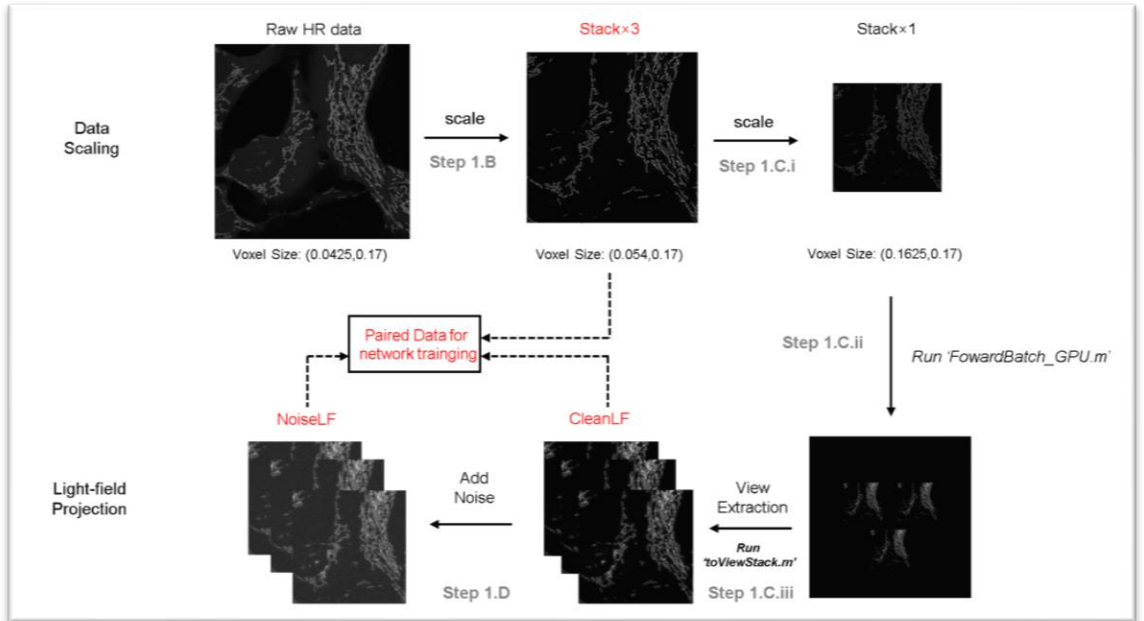

Fig. 3 Pipeline of data-preprocessing.
0.1625 $\mu$ m at lateral dimension and 0.17  $\mu$ m at axial dimension, which is about three-folds than the high-resolution stack acquired from Airyscan2. So, we set the SR factor as 3 and scale the acquired stacks to  $0.1625/3 \approx 0.054$   $\mu$ m at XY dimension and 0.17  $\mu$ m at Z dimension as shown in Fig.3.